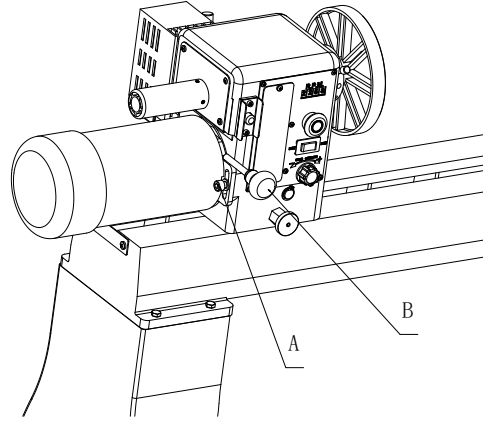

FIG. 8
2. Loosen the locking Screw (A, Fig. 8).
3. Lift up on the tensioning handle (B, Fig. 8) to remove tension from the poly v-belt. You can now position the belt in the desired speed range. It is pictured in the low speed pulley range. **Note:** The "High" speed range (0-3200) provides maximum speed, where as the "Low" speed range (0-1200) will provide maximum torque.